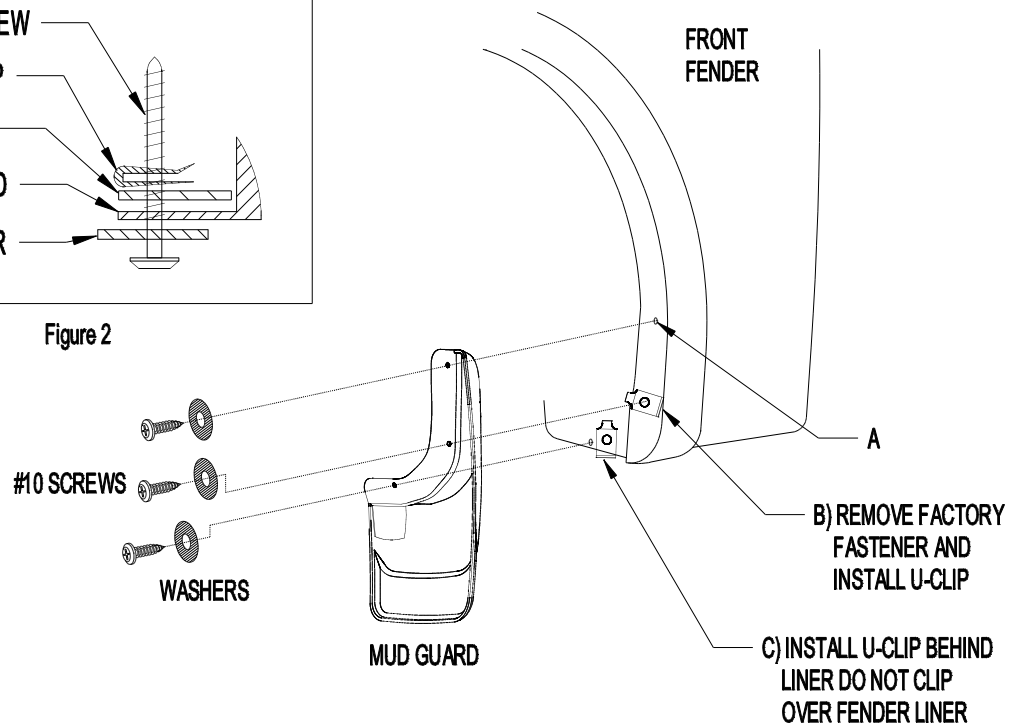

Figure 1
2. Remove existing fastener from location B and install a U-clip (Figure 1).